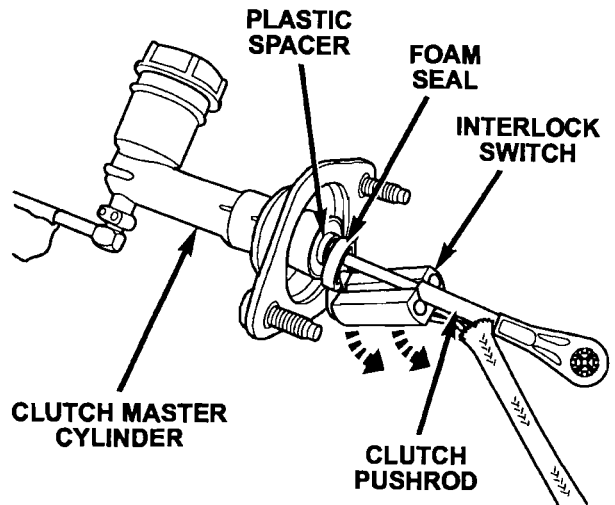

Figure 3
3. Remove the interlock switch from the clutch pedal pushrod (Figure 3).